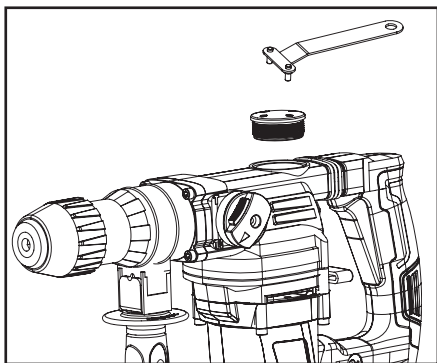

Fig. 9
1. Using the two-pin key, screw off the cover for the application of lubricant into the gearbox (Fig. 9) and check the amount of lubricant in the gearbox.